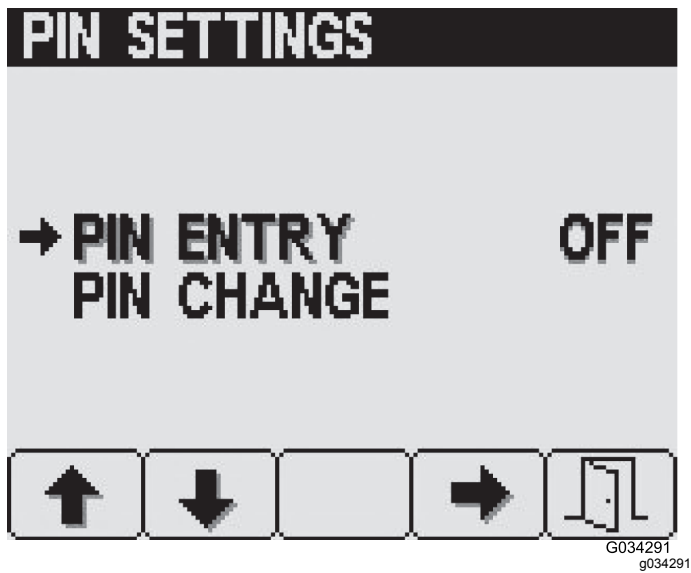

Figure 26
3. From the PIN Settings screen, press button 4 to select PIN Entry and to turn the PIN on or off (Figure 26).